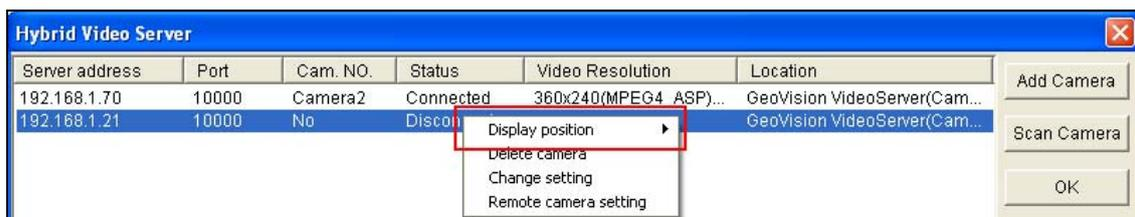

Figure 2-5
To preview video, activate audio and configure frame rate, click the desired camera (Figure 2-5) and select **Preview & Audio Setting**. This dialog box appears.
- **Preview dual stream record channel:** The option is only available when the dual stream is set, i.e. the cameras for live view and recording are configured differently (see Figure 2-5). Check this option for recording preview.